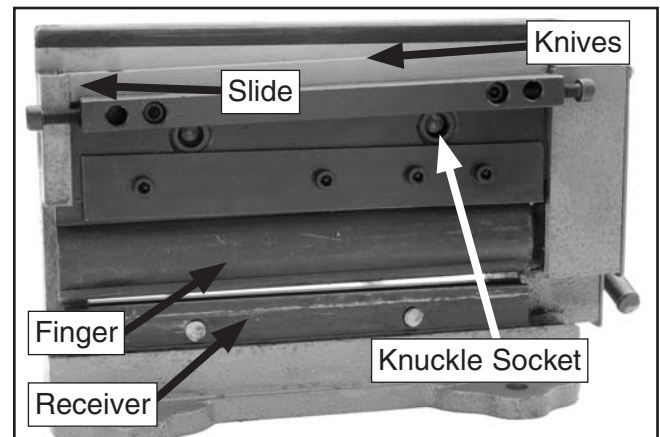

Figure 30. General oil lubrication locations.
1. Using an oil can filled with any type of machine or motor oil, lubricate the fingers, finger receiver, knuckle sockets, slides, and knives (**Figure 30**).